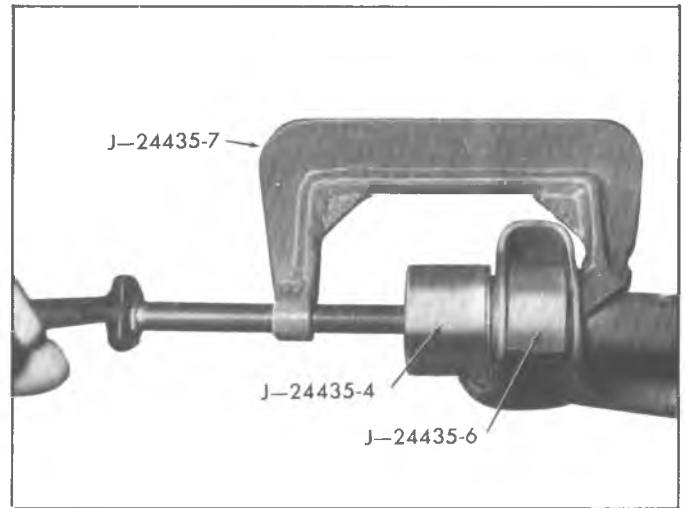

Fig. 33C—Lower Control Arm Rubber Bushing Installation
#### Bushing Installation (fig. 33C)
1. Install new bushings as shown in figure 33C using spacer J-24435-6, installer J-24435-4 and "C" clamp J-24435-7.
**CAUTION:** Be sure spacer J-24435-6 is in position as shown in figure 33C to avoid collapsing control arm during assembly.